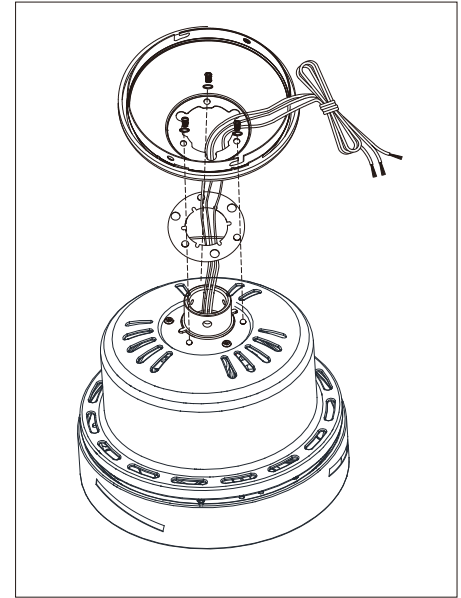

Figure 10
6. Route the wires exiting the top of the fan-motor assembly through the canopy ring, and the canopy (make sure the slot openings for the canopy ring and canopy are on top). Place the canopy over the collar at the top of the motor. (Figure 10)